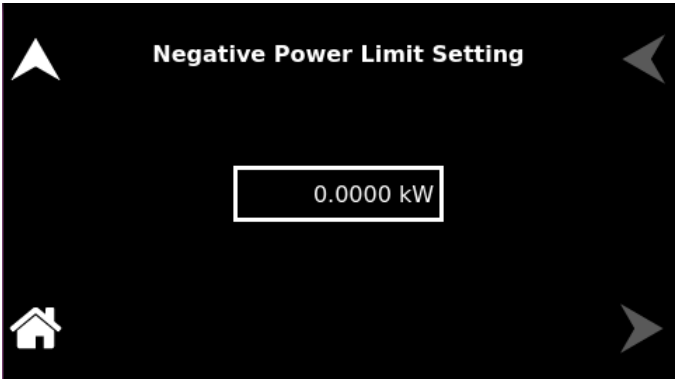

Figure 10-21. Negative Power limit setting screen
**Neg. Power Limit** Users can set a negative power limit value, which functions as trip limit (CV and CV/CC), or it regulates (CV/CP) the output upon reaching the Neg. Power Limit. Refer to Figure 10-21.